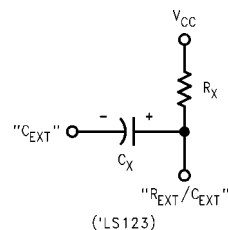

FIGURE 1.
2. When an electrolytic capacitor is used for C_X a switching diode is often required for standard TTL one-shots to prevent high inverse leakage current. This switching diode is not needed for the DM74LS123 one-shot and should not be used. In general the use of the switching diode is not recommended with retriggerable operation. Furthermore, if a polarized timing capacitor is used on the DM74LS123 the negative terminal of the capacitor should be connected to the " C_{EXT} " pin of the device (Figure 1).